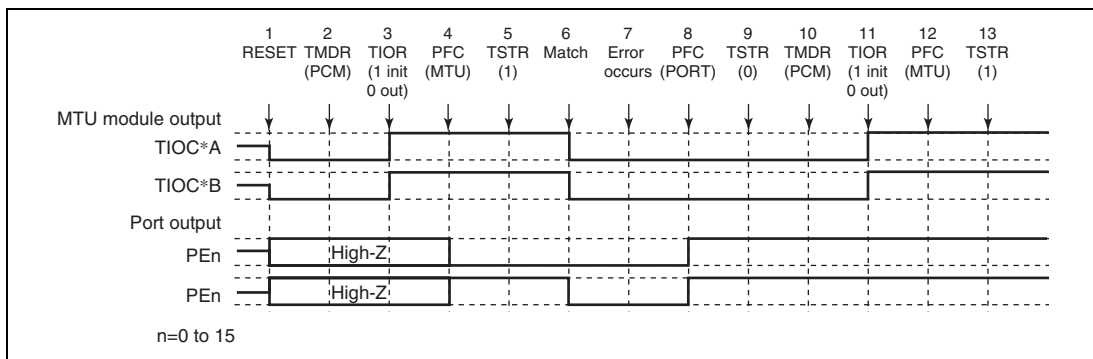

**Figure 11.104 Error Occurrence in Phase Counting Mode, Recovery in Phase Counting Mode**
**Operation when Error Occurs during Phase Counting Mode Operation, and Operation is Restarted in Phase Counting Mode:** Figure 11.104 shows an explanatory diagram of the case where an error occurs in phase counting mode and operation is restarted in phase counting mode after re-setting.